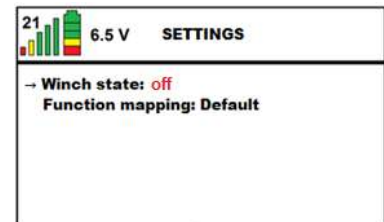

Figure 51
- Deactivate the winch by setting the **Winch state** to **OFF** in the remote control menu (see figure 51).